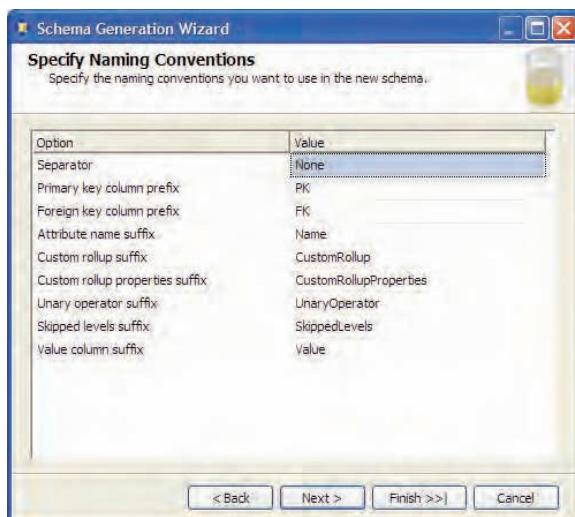

Figure 6.12 Use the Specify Naming Conventions step to tell the wizard how to name the database objects.
- Next, in the Specify Naming Conventions step (Figure 6.12), the Schema Generation Wizard asks about the naming convention for the database object names. Most enterprise shops have database naming conventions in place for naming table objects, indexes, primary key, etc. The only change we will make in this step is to change the Separator dropdown to *None*, so the column names follow the title case naming convention, e.g. *ProductName*, with no separator.